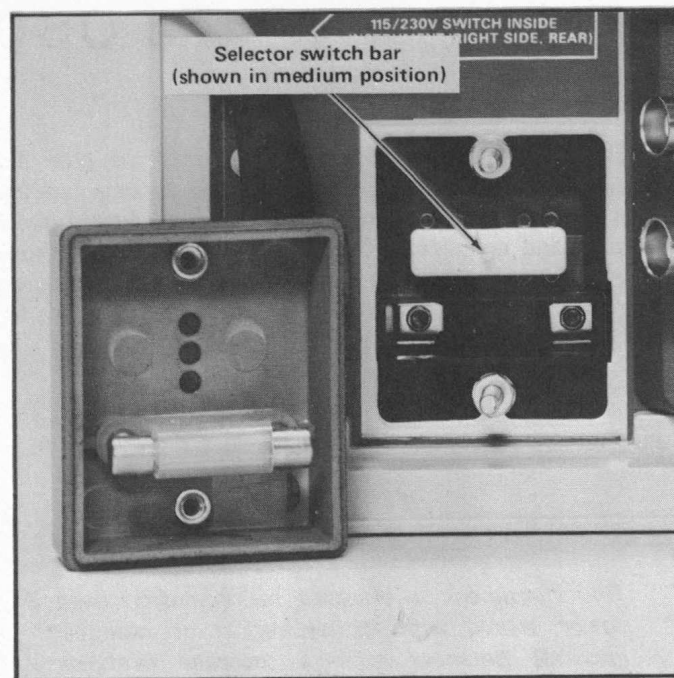

Fig. 1. Power supply regulating range selector.
4. Pull out the range selector switch bar (see Fig. 1). Slide the bar to the desired position and plug it back in. Select a range which is centered about the average line voltage to which the instrument is to be connected (see Table 1).